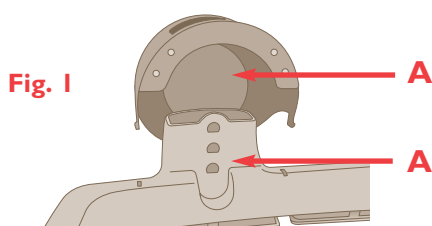

Fig. 2
Step 2. Place seat pad into seat ring located on tray. Align it so that the highest point of the seat pad aligns with back of walker ring (Figure 2).
Step 3. Insert the 8 round tabs on the seat pad into slots located around the seat ring (Figure 2).
Step 4. Slide tabs through holes (Figure 2).
Locate the holes in the rear of the tray. Align roll bar posts and insert into holes (Figure 2).
Step 2. Rest tray on side with "A" side facing up. Place opening in leg "A" through tray bolt "A" (Figure 2).
Step 3. Insert assembled legs through the wheel openings into mounting holes of wheel and base, by pushing button in and pressing the tray hood down (Figure 2).